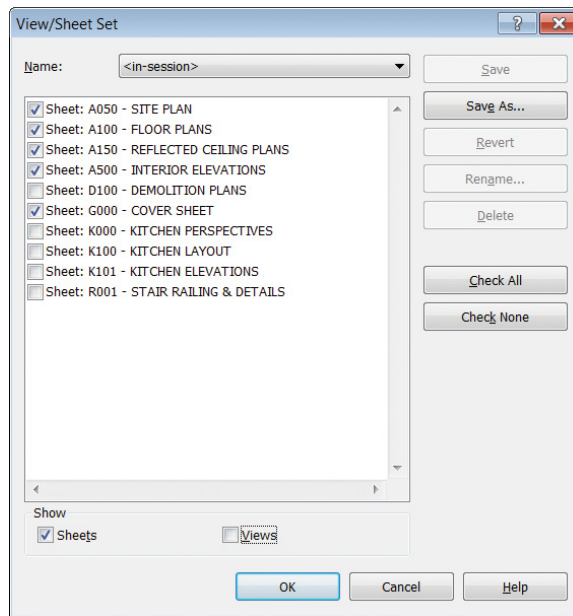

FIGURE 12.29 Selecting the desired sheets
3. From the list, select the A-series sheets and the G000 cover sheet (Figure 12.29).